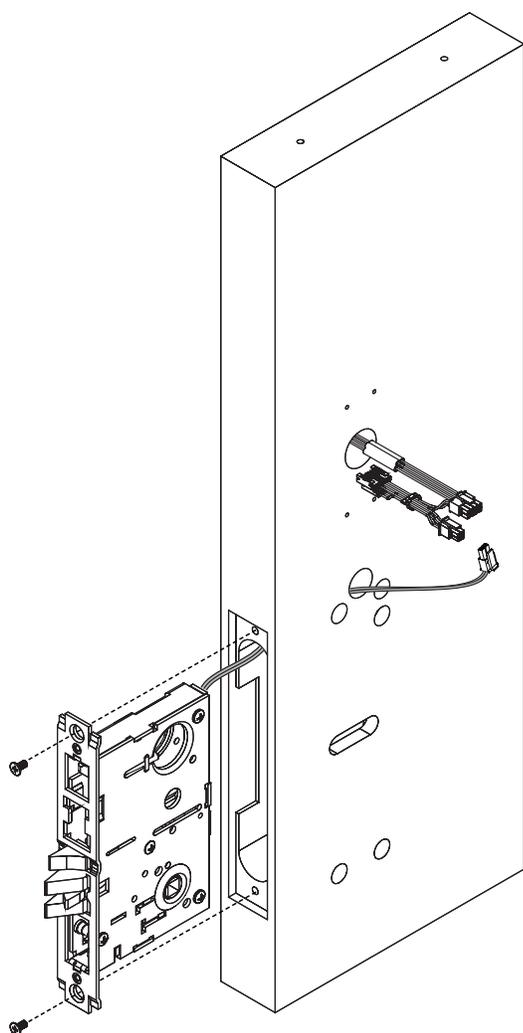

Figure 9a
1. Feed lock wire through wire harness hole; seat lockbody firmly into mortised pocket (Figure 9a).